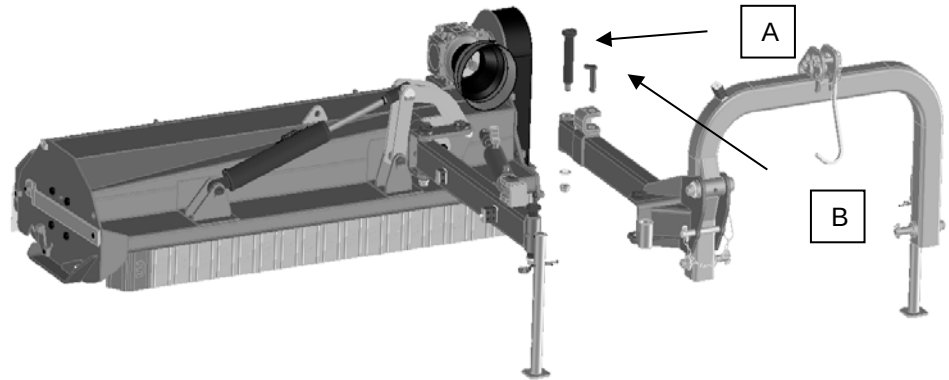

Figure 14
3. With caution and care move the parallelogram arms until they are re-entered on the related holes, then secure them with the pin (figure 14);
4. Move the jack and secure it with the relative pin B (figure 14);